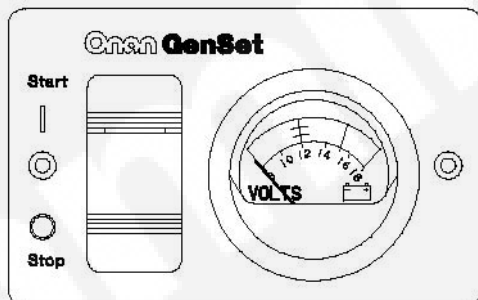

FIGURE 6. REMOTE SWITCH / DC VOLTMETER
- Remote switch with status indicator light and DC voltmeter (Figure 6).